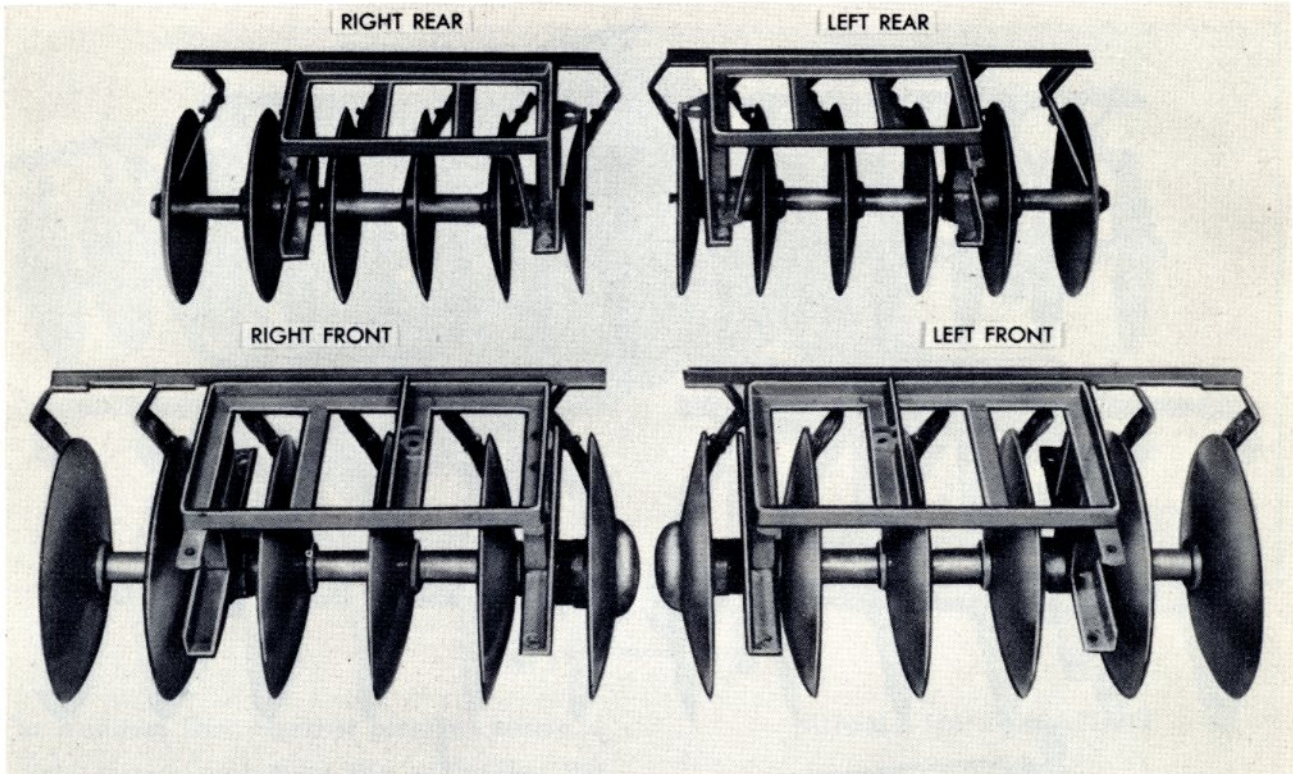

Figure 3
Step 1: Place the four disc gangs in position as shown in Figure 3.